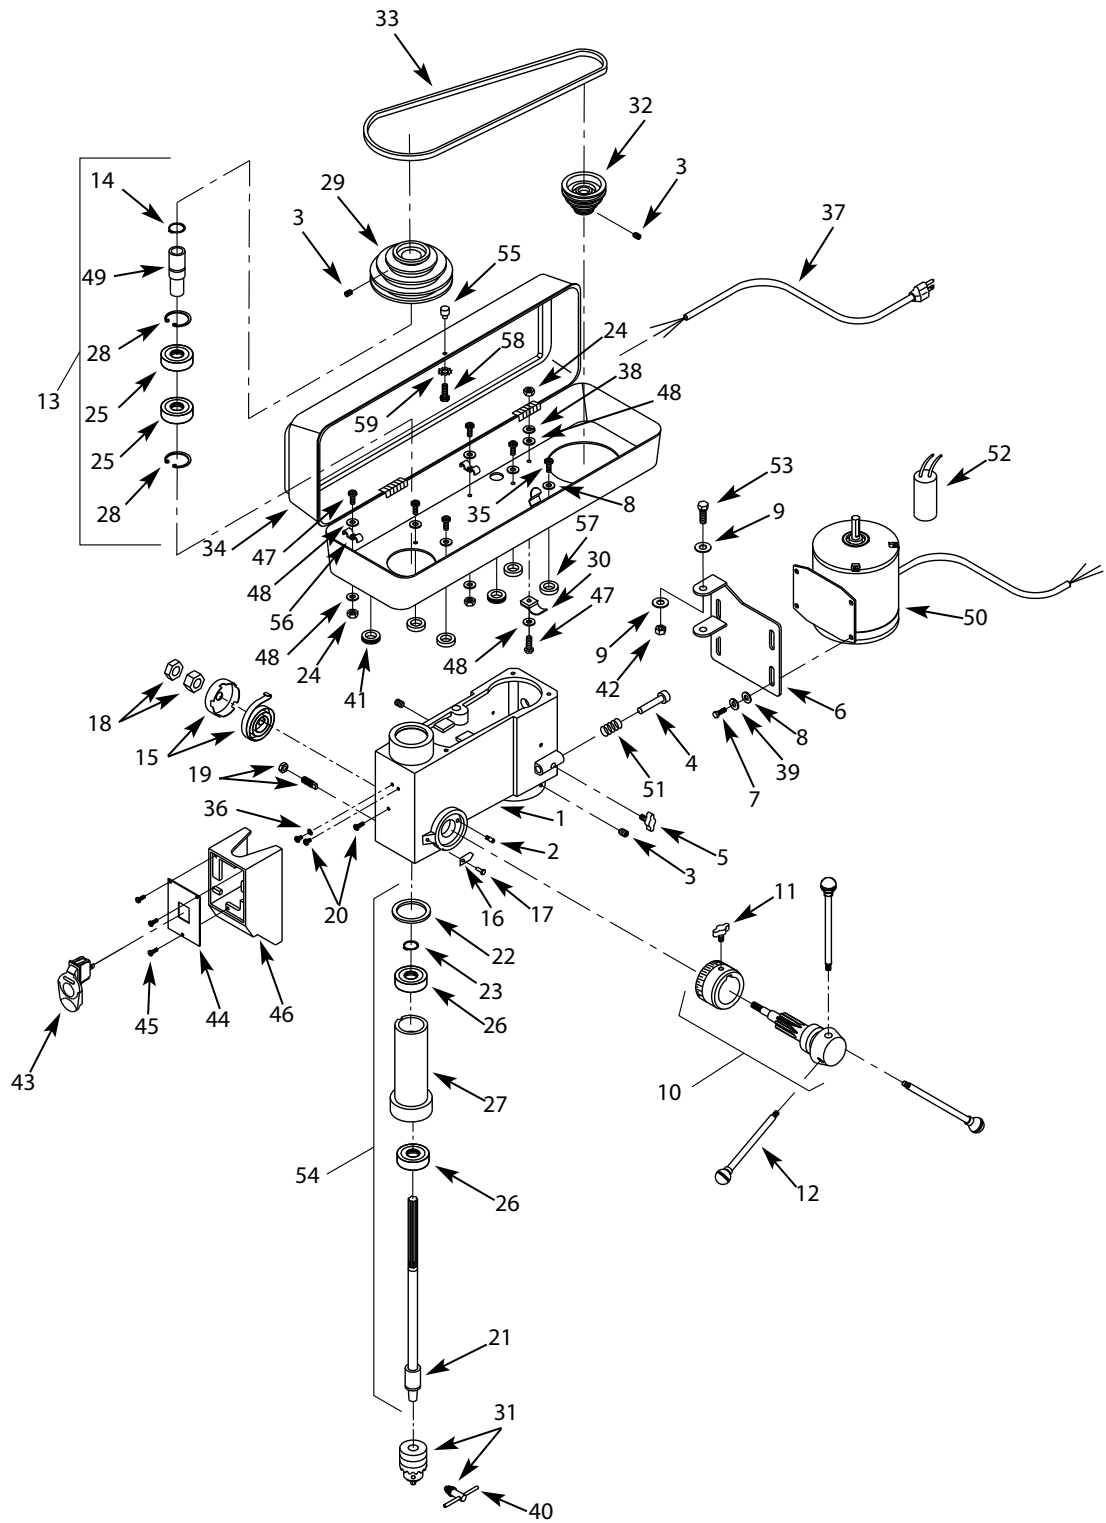

Figure 7 - Replacement Parts Illustration for Head
Refer to Figure 7.
- Lower quill assembly (Figure 7, Ref. No. 54) all the way down.
- Apply lubricant around the inside of the hole in the spindle pulley (Figure 7, Ref. No. 29).
- Apply lubricant to rack (teeth) on quill (Figure 7, Ref. No. 27) while extended below drill press head.